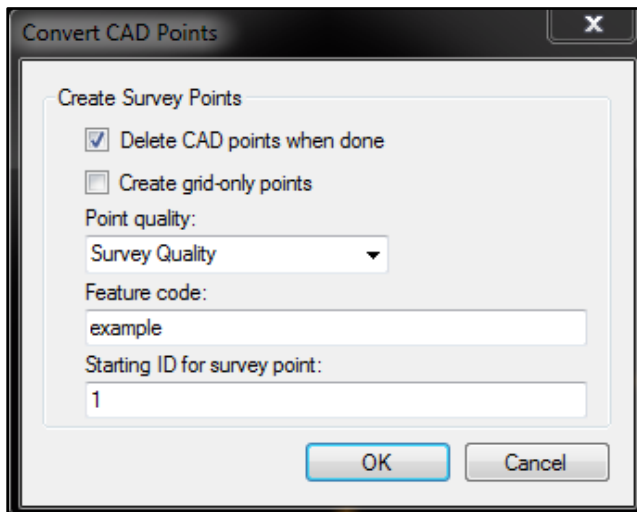

Figure 11.—Convert CAD Points tool window.
5. Check “Delete CAD points when done.” Continue and choose “Survey Quality” under the “Point quality” drop-down, then assign the “Feature code” and “Starting ID for survey point” (Point ID; figure 11).